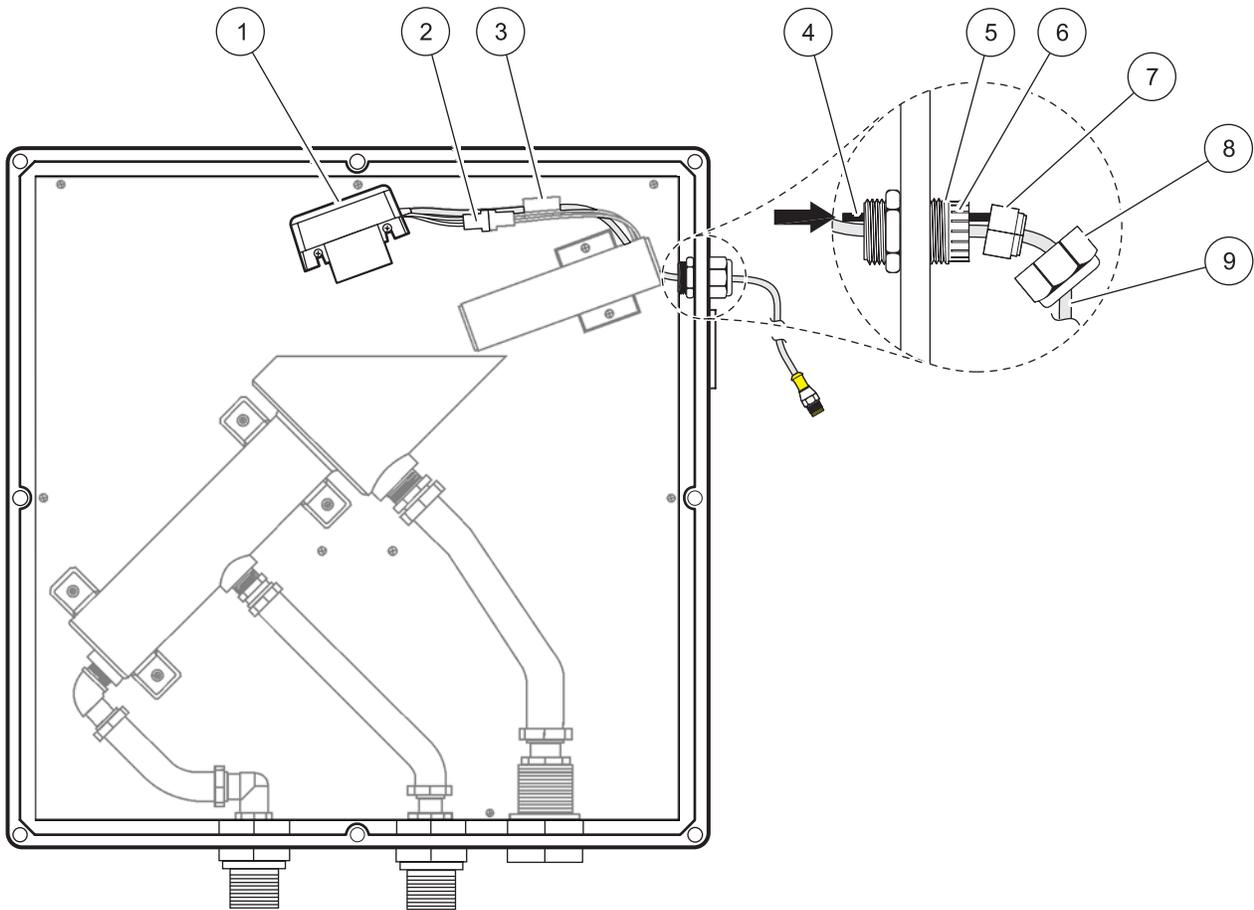

Figure 20 Detector assembly replacement
The detector assembly, listed as a replacement item in section 8.1 on page 51, is a sealed unit that is replaced entirely (Figure 20).
3. Disconnect the detector cable from the controller. Unscrew the nut (Figure 20, item 8) and remove it from the disconnected detector cable.
5. Pull the detector cable through the strain relief. Open the cable clamps (Figure 20, item 3) and remove the cable.
6. Remove the two screws securing the detector assembly to the wall of the SS7 sc enclosure. Remove the complete detector assembly (Figure 20, item 1).
8. Thread the detector cable through the strain relief. Replace the split grommet (note the orientation in Figure 20) onto the detector cable. At the clamping fingers, rotate the grommet counter-clockwise while pushing the grommet back into place in the strain relief.